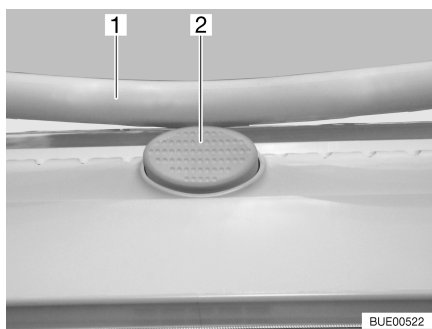

Fig. 25 Safety knob on the Heki skylight
- Press the safety knob (Fig. 25,2) and pull the bar (Fig. 25,1) down with both hands.
- Push the bar upwards with both hands until it is above the safety knob (Fig. 25,2).